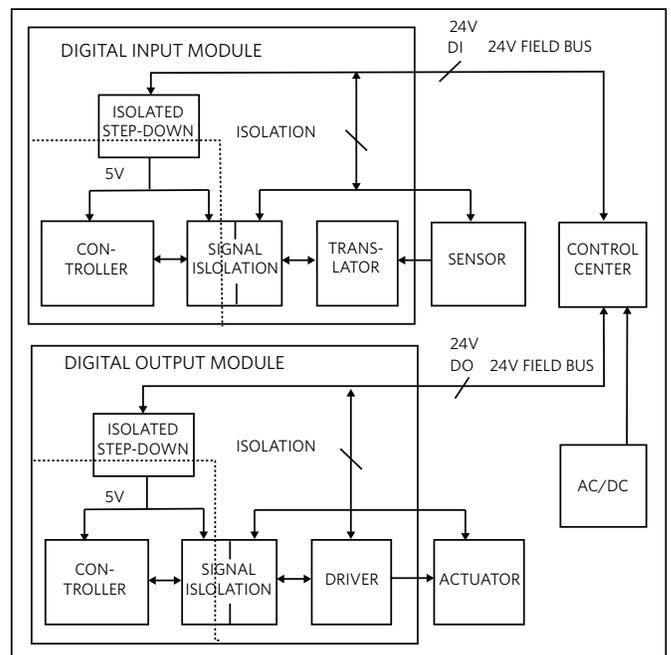

Figure 29. Digital I/O Module and Factory System Block Diagram
*Figure 29* illustrates a generic digital I/O module and factory system block diagram. A central hub takes the AC line power and converts it to 24V DC, delivered to the I/O module together with the corresponding digital input (DI) and digital output (DO) data. With electric and magnetic interference and overvoltages, the factory environment is harsh and requires additional protection for sensitive electronics. Each module's PLC is powered via an isolated step-down voltage regulator. At the digital input module (DIM), a rugged voltage-level translator interface powers the sensor, receives its information, and passes it along to the PLC via a digital isolator or optocoupler. A similar power, signal, and isolation chain on the digital output module (DOM) leads to the on-board driver, which interfaces to the external actuator. A power-efficient and compact implementation of the isolated step-down converter in the input and output modules is necessary for modern systems.